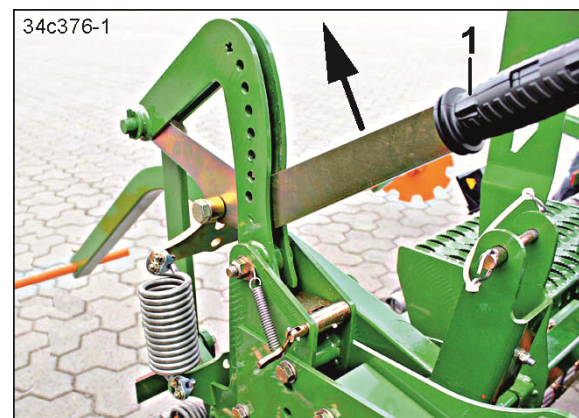

Fig. 205
4. Pull the lever (Fig. 205/1) in the direction shown by the arrow.